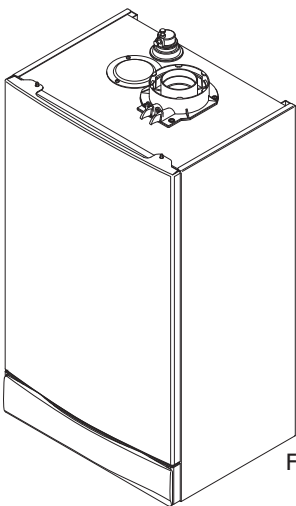
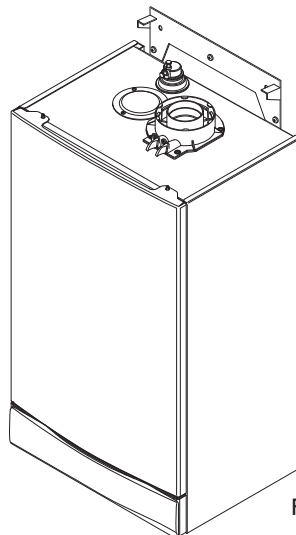

Fig. 5
Fig. 6
5. Continue to install the boiler on the wall plate (Fig. 5). Secure the mounting bracket with suitable screws (Fig. 6).